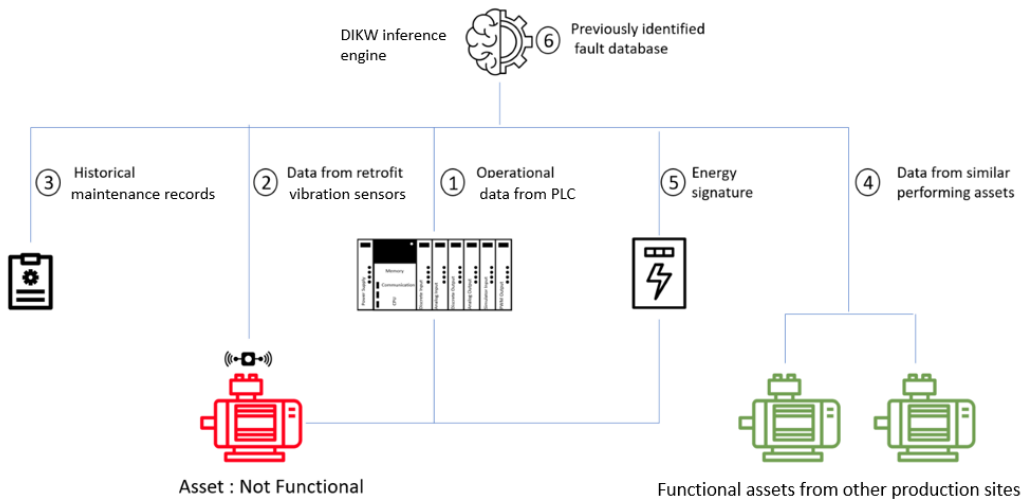

Figure 5.18 – DIKW model through an asset health monitoring use case
*Figure 5.18* provides a visual understanding of our asset health monitoring use case. The PLC controlling the machine directly streams the binary or ON/OFF data from a piece of equipment. When the machine sends non-operational data during its scheduled operations, it means that there is an anomaly, and